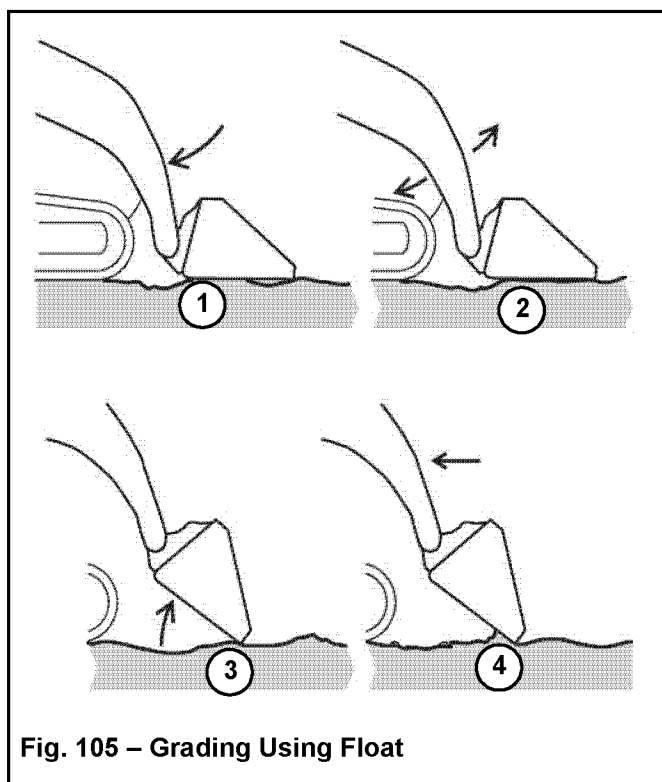

Fig. 105 – Grading Using Float
1. Lower the bucket to the ground (Fig. 105).
3. Tilt the bucket forward so it stands on the cutting edge (Fig. 105).